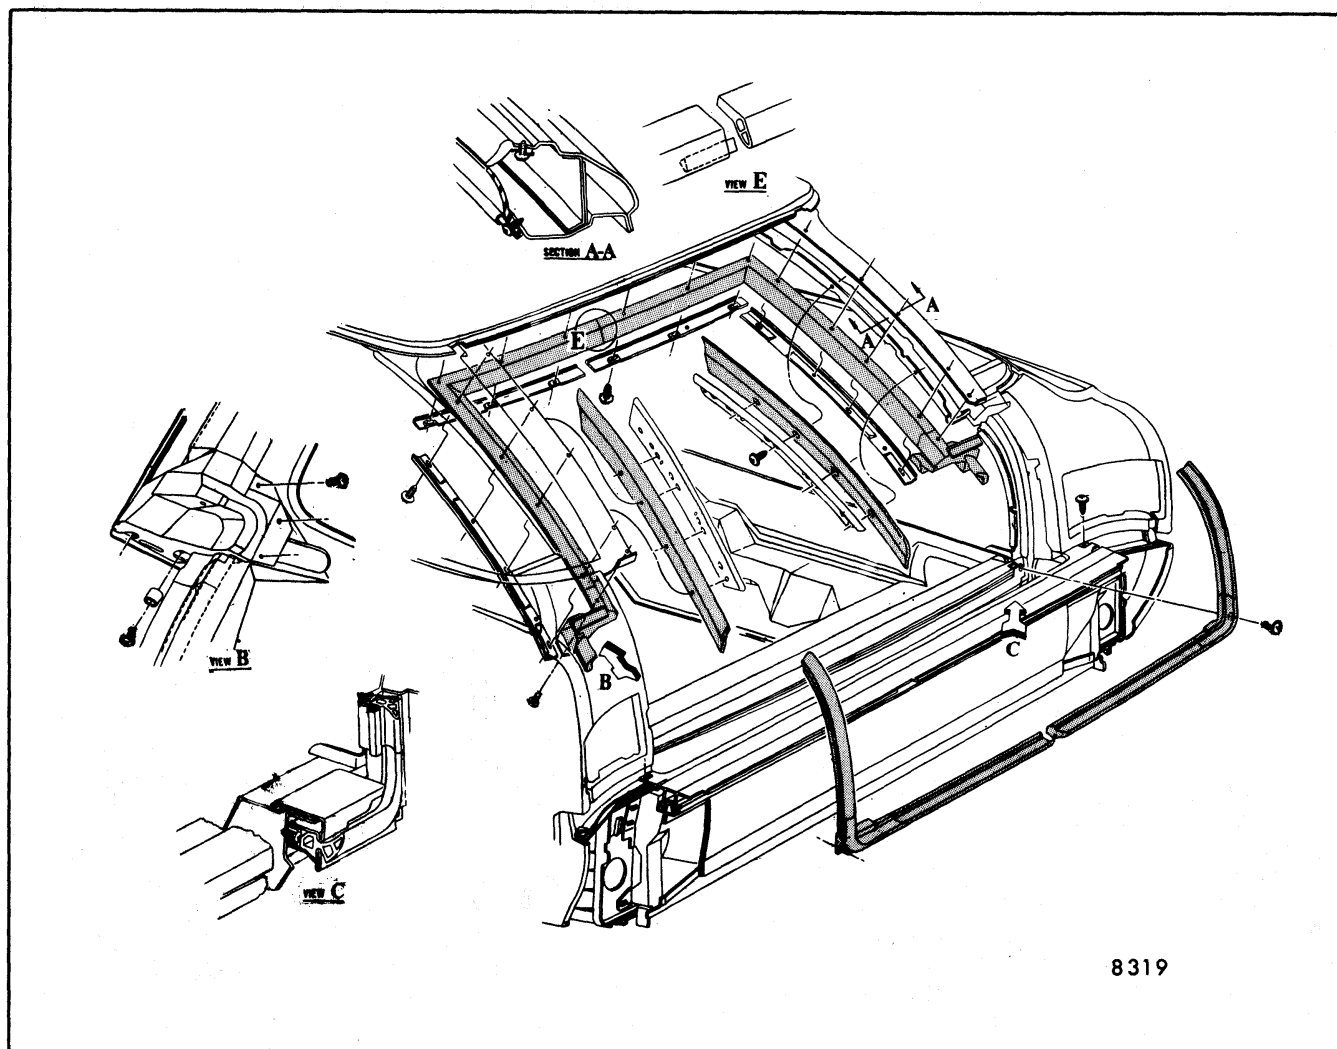

Fig. 7-112-Back Body Opening Weatherstrip Retention
The back body opening weatherstrip is of two-piece design with a butt joint located at the bottom and top of the opening (Fig. 7-112). Below the belt, the weatherstrip is cemented into screw applied channel-type retainers. The weatherstrip includes a sculptured detail area (referred to as the "mucket") at the beltline to seal the body opening off-set. At this area, the weatherstrip is retained by cement, screws and nylon drive nail fasteners. Above the beltline, the weatherstrip is retained by cement and screw-attached retainers applied over the weatherstrip.
3. Remove screws securing weatherstrip retainers above beltline, at "mucket" areas (including drive nail fasteners) and at lower corners of back body opening (Fig. 7-112).